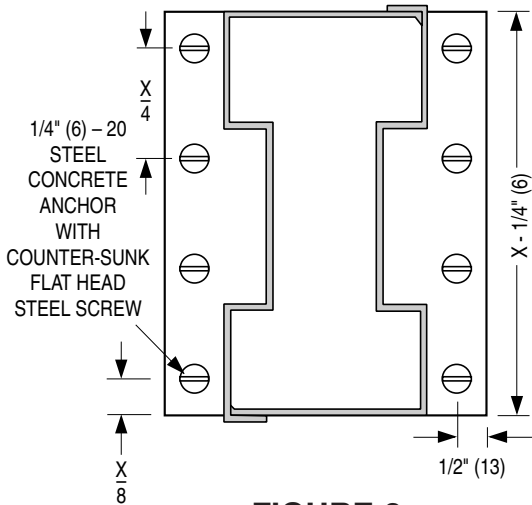

FIGURE 3
4. Drill holes in caps and concrete for anchoring steel mullion caps with 1/4" (6) – 20 x 5/16" (8) steel screws and 3/8" (10) diameter x 1" (25) concrete expansion anchors. The eight holes to secure the cap (**Figure 3**) are equally spaced, X ÷ 8 from both ends and 1/2" (13) inwards of each side.